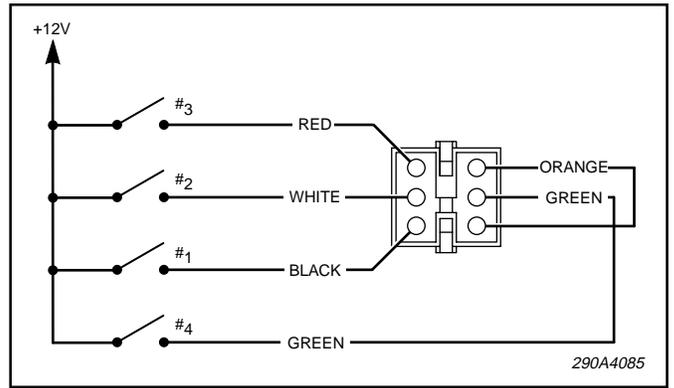

Figure 3.
- 4. See figure 3 for control wire harness connections.